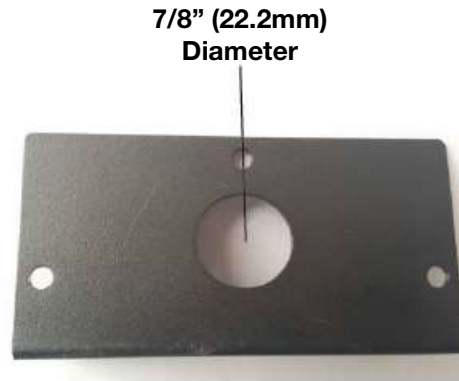

Fig. 2
3. Locate the new cover plate (**Fig. 2**) (supplied). Punch out the 7/8" (22.2mm) hole and install a box connector through the junction box. Snap the box connector clamp onto the supply wires.